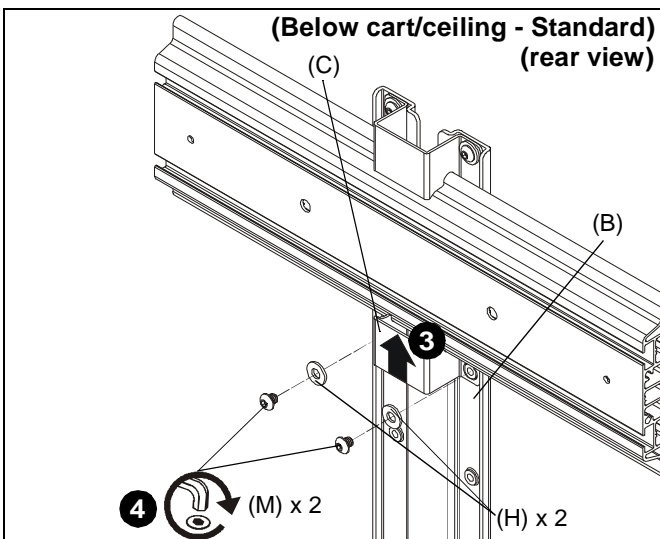

Figure 9
3. Slide second shelf bracket (C) underneath head assembly, lining up holes on shelf bracket (C) to holes on main bracket (B). (See Figure 9)
4. Use two 1/4-20 x 1/4" button head cap screws (M) and two large washers (H) to secure shelf bracket (C) to main bracket (B). (See Figure 9)